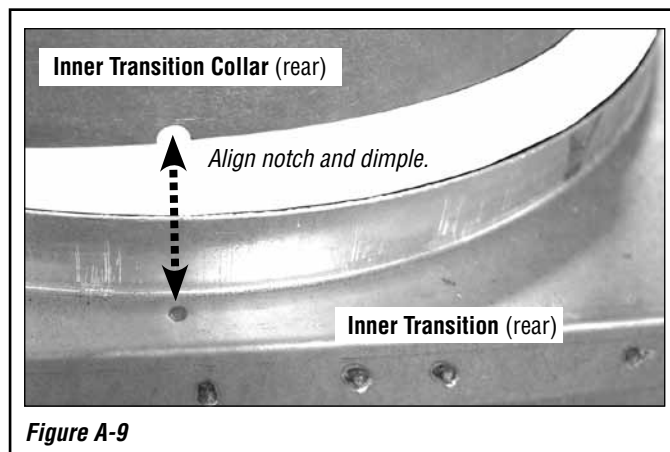

Figure A-9
- 5.2. See **Figure A-9**, below. Align the notch in the rear of the inner transition collar with the dimple in the rear of the inner transition.